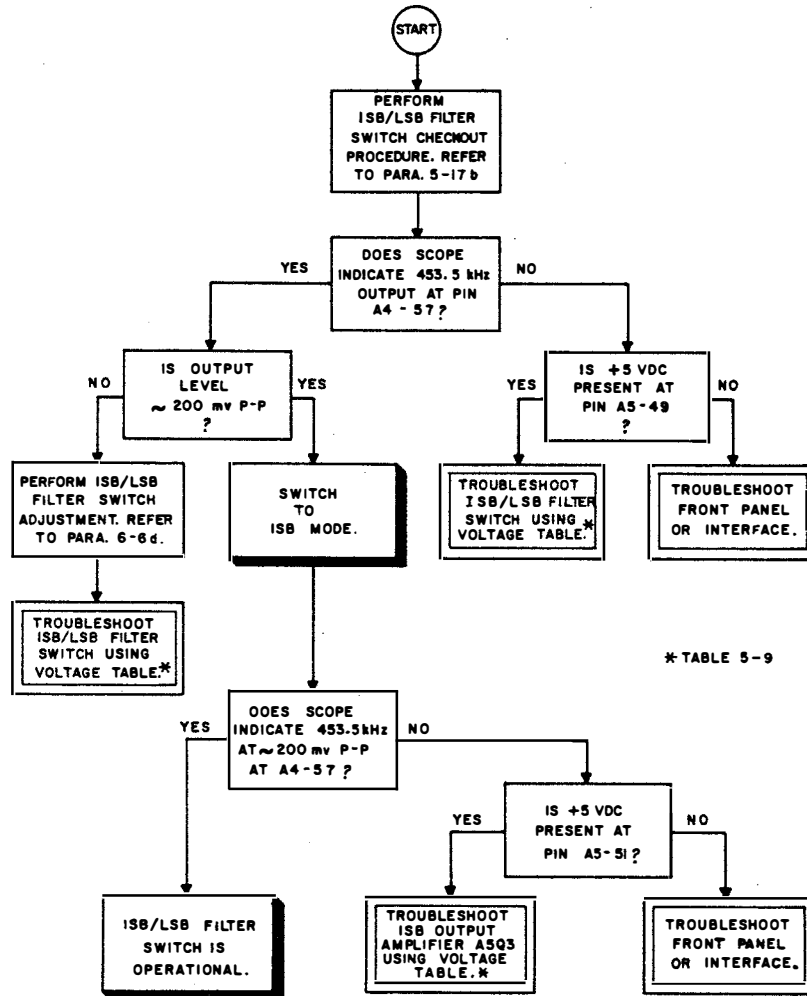

Figure 5-15. ISB/LSB Filter Switch Fault Logic Diagram
(1) Figure 5-15, ISB/LSB Filter Switch Fault Logic Diagram.
(2) Table 5-9, ISB/LSB Filter Switch Voltage Table.
(3) FO-8, ISB/LSB Filter Switch Schematic Diagram.
(4) ISB/LSB Filter Switch circuit description, paragraph 3-41.